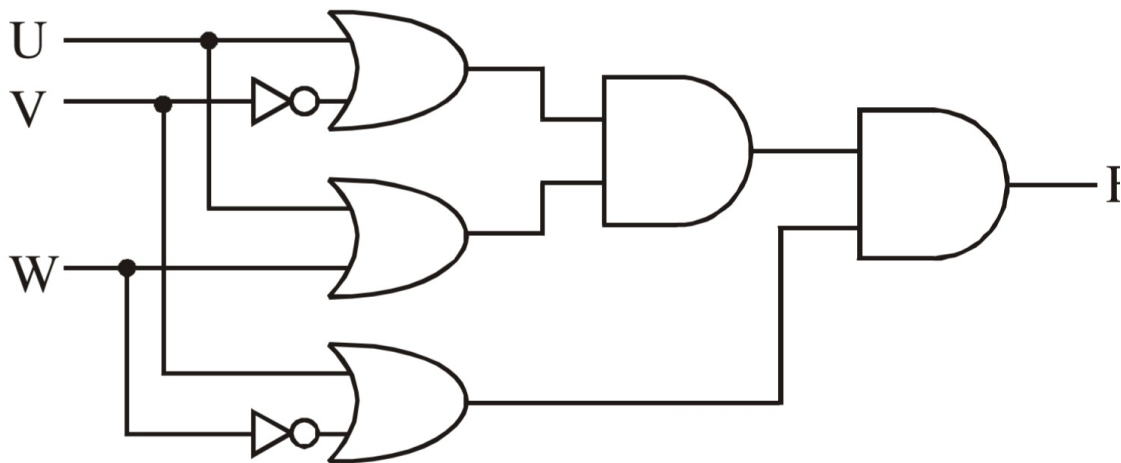

Figure 3.2:
7. Write the Boolean Expression for the result of the Logic Circuit as shown in Fig. 3.2 (CBSE 2016)